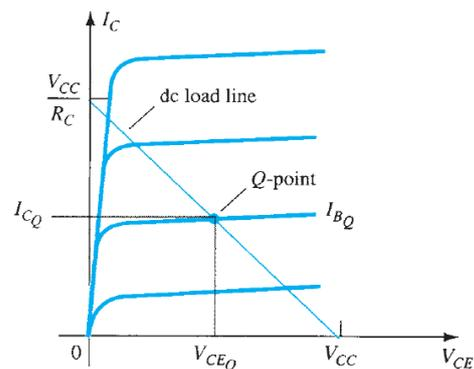

Fig. 3
To appreciate the importance of the dc bias on the operation of the power amplifier, consider the collector characteristic shown in Fig. 3 . **A dc load line is drawn using the values of V_{CC} and R_C . The intersection of the dc bias value of I_B with the dc load line then determines the operating point (Q -point) for the circuit. The quiescent-point values are those calculated using Eqs. (1) through (3). If the dc bias collector current is set at one-half the possible signal swing (between 0 and V_{CC}/R_C), the largest collector current swing will be possible. Additionally, if the quiescent collector–emitter voltage is set at one-half the supply voltage, the largest voltage swing will be possible (Q –point set at optimum bias point).**